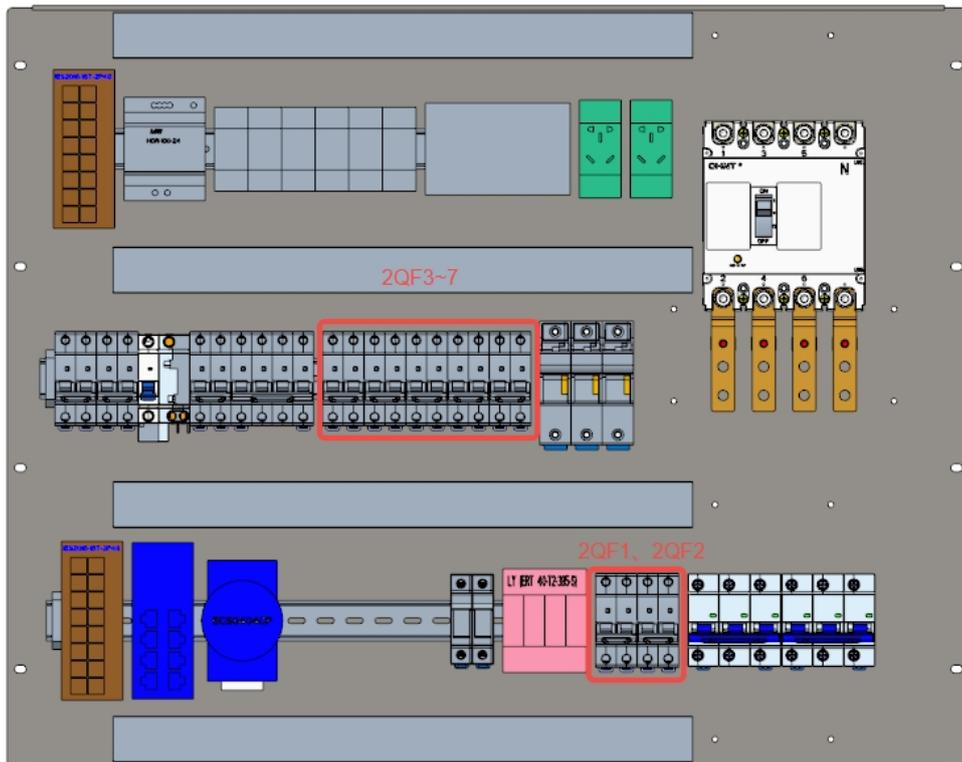

Figure 5-2 Close 2QF1-2QF7 micro circuit breaker
3. Disconnect the micro circuit breaker 2QF1-2QF5 in the distribution unit. See Figure 5-2.